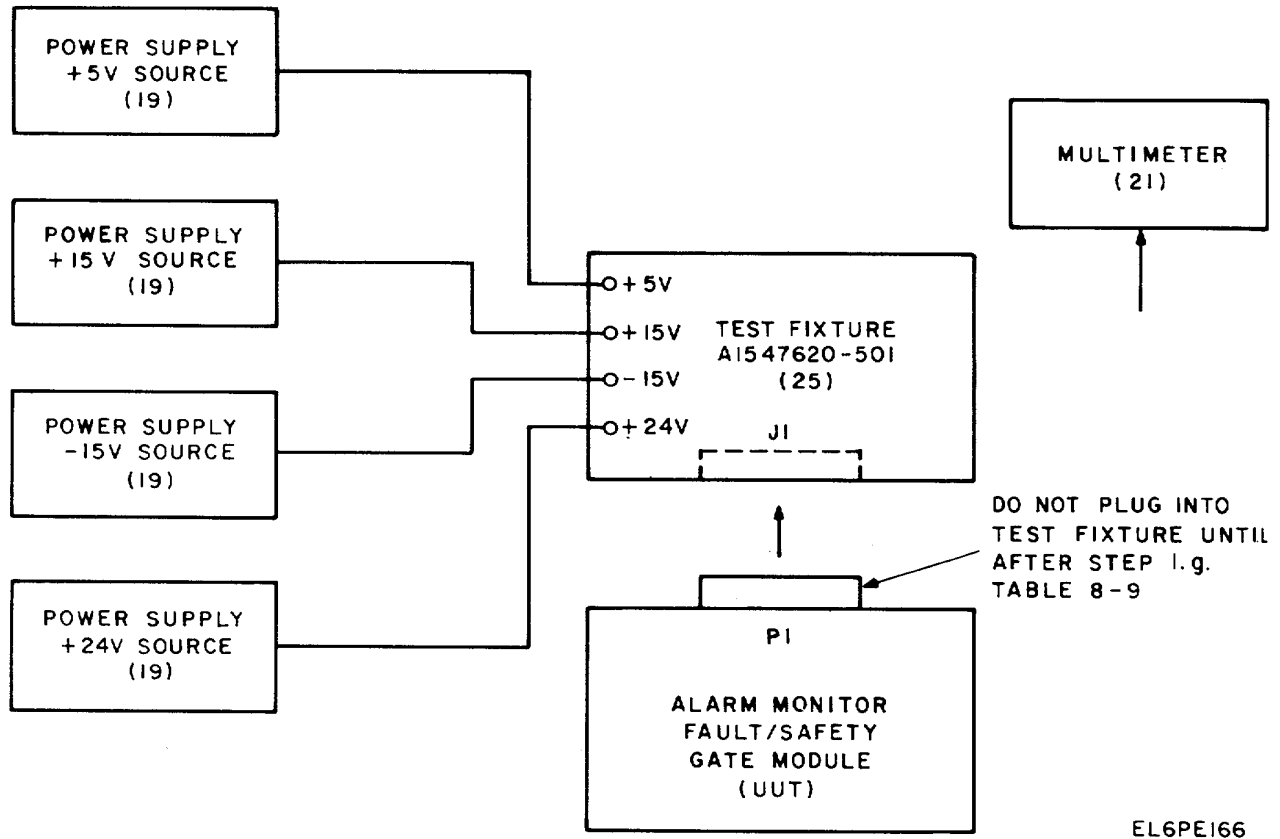

Figure 8-11. Alarm Monitor Fault/Safety Gate, Test Setup.
a. Table 8-9 contains test procedures for troubleshooting the alarm monitor fault/safety gate. Refer to figure 8-11 and then table 8-1 for the test equipment required to perform these procedures. Note in figure 8-11 the quantity required for item 19.
b. Interconnect the test equipment as shown in figure 8-11. Do not connect the test power supplies to the ac power source. Do not connect the fault/safety gate nor dc power to the test fixture.
<p>1. Preliminary setup.</p>	<p>a. Perform the procedures of paragraph 8-15b, c, and d. b. Connect the power supply line cords to a 115 volt, 50-60 Hz power source. Turn on the power supplies. c. See figure 8-11. Adjust the + 5 V source power supply for a 5-volt indication on its front panel voltmeter. d. Adjust the remaining power supplies for their respective voltage source output levels. e. Turn off the power supplies. Connect power supplies to external power plugs on the right side panel of the test fixture. Turn on the power supplies. f. Connect the multimeter to the + 24 V and RETURNS test points on the test fixture. Adjust the + 24 V source power supply for 24 volts on the multimeter. g. In turn, connect the multimeter to the + 15 V, - 15 V, and + 5 V test points and adjust the associated power supply for the respective voltage indication. h. Proceed to step 2.</p>